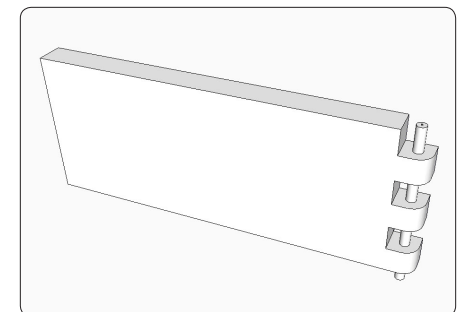

Figure 48. The fixed half of the hinge, with the hinge pin in place.
Step 3 Remove the waste, leaving a leaf with three knuckles, as shown in Figure 48.